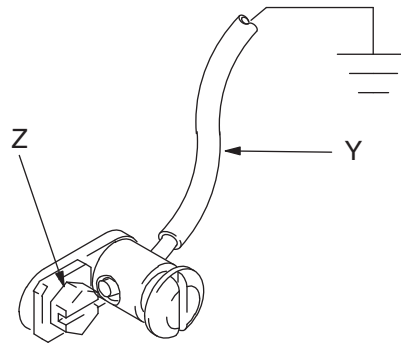

FIG. 1
To ground the pump: Remove the ground screw (Z) and insert through the eye of the ring at the end of the ground wire (Y). Fasten the ground screw back onto the pump and tighten securely. Connect the other end of the ground wire to a true earth ground. See FIG. 1. To order a ground wire and clamp, order Part No. 222011.